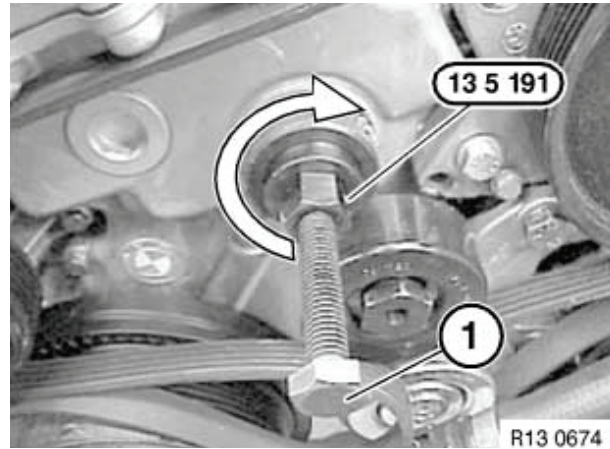

Figure 6-26
12. Thread special tool OEM No. 13 5 191 without jack screw (Figure 6-26, (1)) into sprocket by hand until firmly seated.
13. Thread jack screw (Figure 6-26, (1)) into special tool until firmly in contact with end of pump shaft.